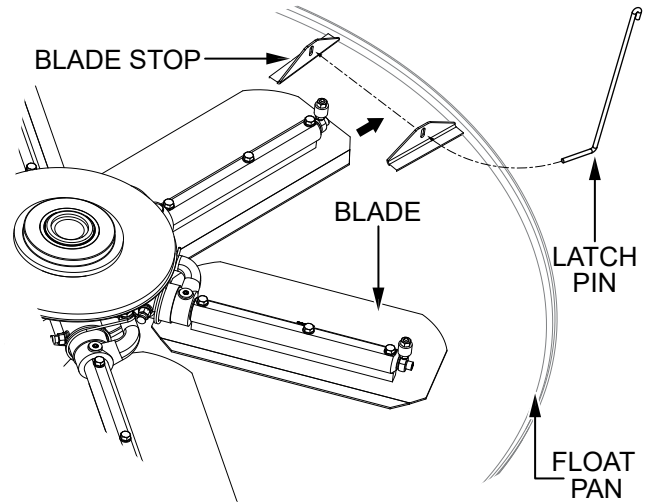

Figure 90. Float Pan Installation (Latch Pins)
2. Lift the trowel just enough to slide a float pan under the blades. Lower the finisher onto the pan with the blades between the blade stops (Figure 90).
3. Route a latch pin through the holes in the blade stops as shown in Figure 90.